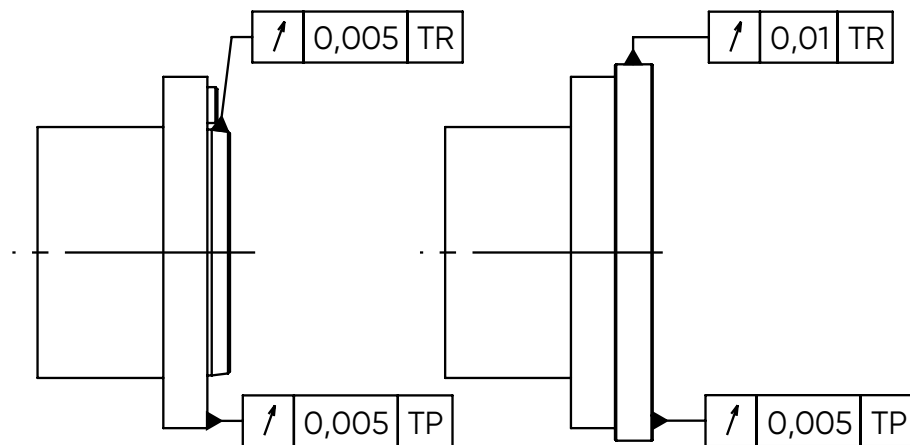

Fig. 3-2: Checking concentricity and runout
- Step 2** Place the draw tube (2) in the front position and screw the adapter (3) onto the draw tube after applying copper paste to the thread to prevent rust/seizures.
- Step 3** Fasten the adapter plate (4) to the spindle (if the chuck is not screwed directly to the spindle) and check concentricity and runout as shown in Fig. 3-2 [... ▶ 18]
- Step 4** Remove the sealing bush (1) from the chuck to ensure that the groove nut (5) can be subsequently screwed on (see step 7).